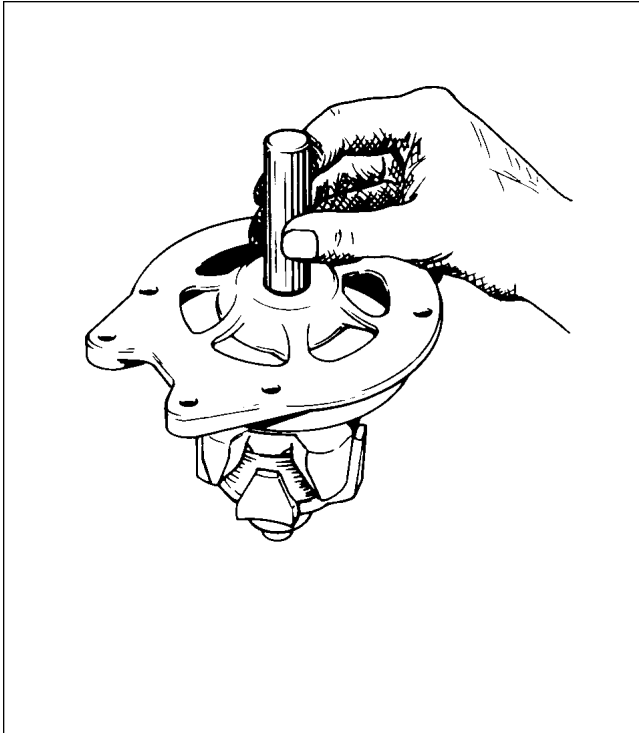

Figure 24-9. Installation of Bearing
- a. Press ball bearing into drive end head using a flat block approximately two inch square, so pressure is exerted on outer race of bearing. Install retainer plate. With snap ring and retainer cup in place on rotor shaft, use a tool that fits over shaft and against inner bearing race, and press until inner bearing race is against snap ring retainer cup. (Refer to Figure 24-9.)